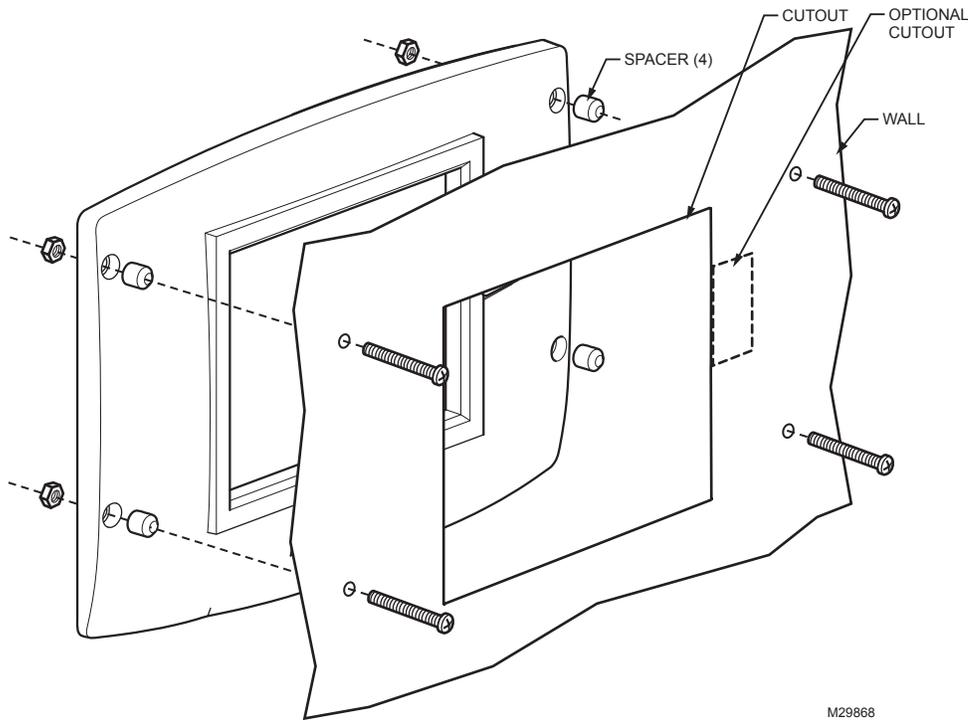

Fig. 9. Mounting the 833-3725 OI Display behind the door panel.
2. Cut an opening to facilitate mounting the display into the door panel. See Fig. 1 for the dimensions for mounting the display from the front of the door. See Fig. 9 for mounting the display to the back of the door. If desired, cut a notch so the LEDs will be visible as well. Tear off templates are also available on the back pages of this Manual (see Fig. 109 on page 57 and Fig. 110 on page 59).
5. Secure the OI Display to the panel using the four #6-32 screws and nuts, as shown in Fig. 9. (Standoffs are provided for mounting the OI Display from the back of the door.)